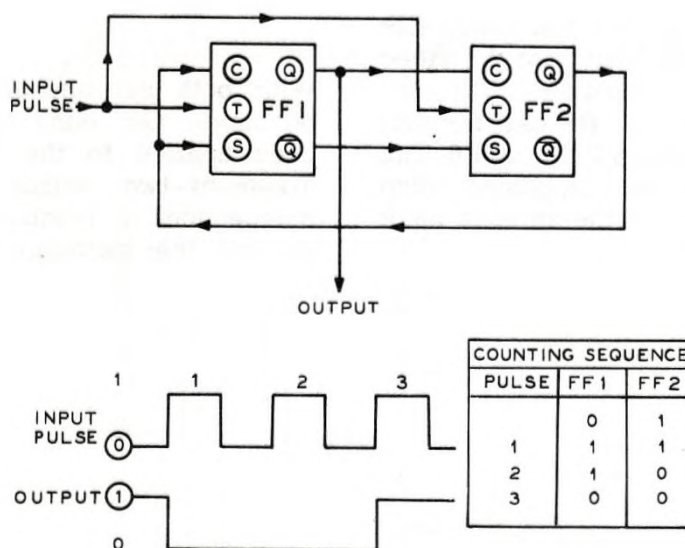

Figure 17
Figure 17 shows how flip-flops FF1-FF2 are connected to divide-by-three, and the input and output waveform relationships. Assume that the "Q" output of flip-flop FF1 is at a "0" level and the "Q" output of flip-flop FF2 is at a "1" level. The first trigger pulse will cause FF1 to change state. The set (S) and clear (C) inputs of flip-flop FF1 remain at the "1" level, the set input of flip-flop FF2 at a "0" level, and the clear input of flip-flop FF2 at the "1" level.
The third trigger pulse will cause flip-flop FF1 to change state but flip-flop FF2 will remain the same. The reason for this is the "0" level appearing at the "Q" output of FF2 already matches the "0" level (prior to flip-flop FF1 switching) at the set input. This relationship is shown in the counting sequence table in Figure 17.